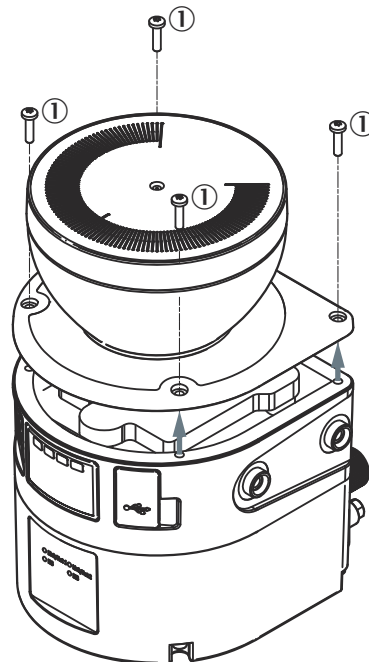

Figure 74: Fixing screws for the optics cover
14. Screw in new fixing screws, see figure 74, page 128.